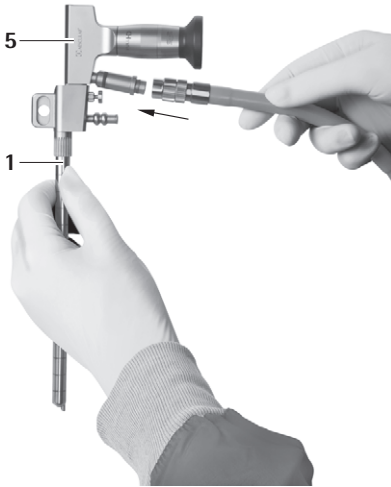

Fig. 3
- ▶ Connect light cable and camera, see Fig. 3–5.